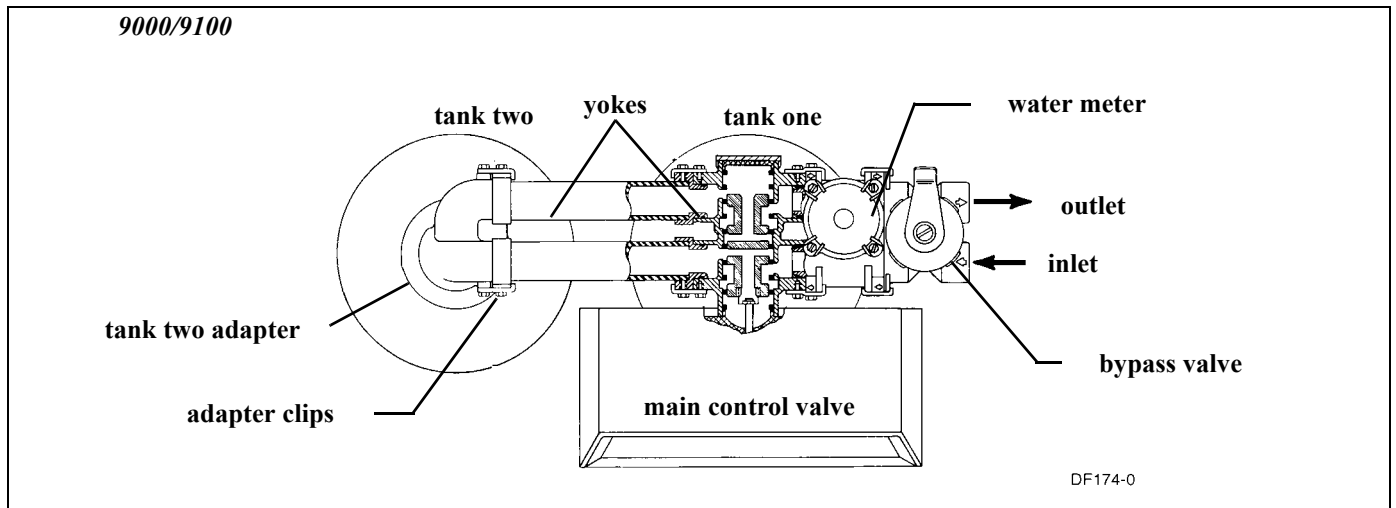
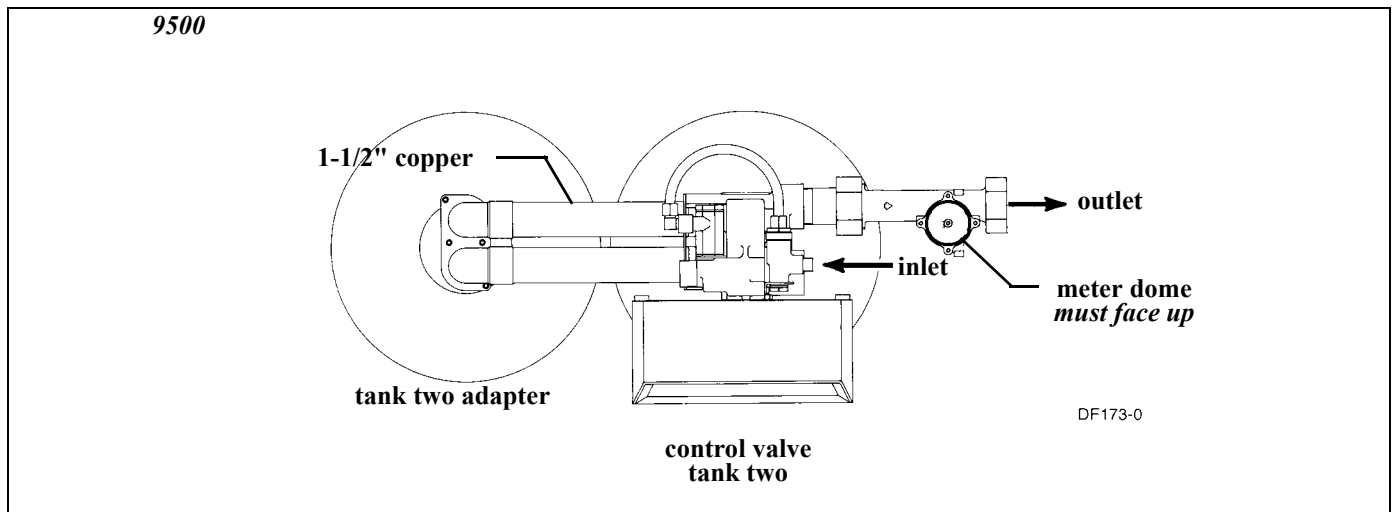

Figure 1: 9000/9100
Figure 2: 9500
14. Tank one has control valve and tank two has adapter. See Figure 1, page 5 or Figure 2, page 5.